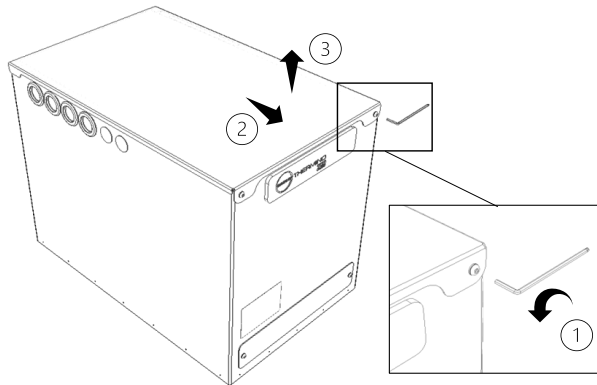

Figure 5 - Lid Removal of Thermino ePlus Heat Battery
- Remove lid. The lid is secured by 2 x M5 button head cap screws at the front and two locating pins at the back (Figure 5):
- (1) Remove 2 x M5 button head cap screws using 3mm hex head and set aside.
- (2) Slide the lid forward, (3) then lift the lid up and set aside.